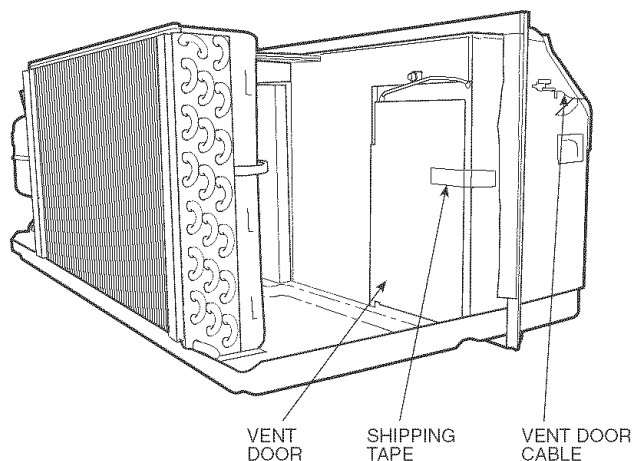

Fig. 9 — Location of Shipping Tape on Vent Door
2. Remove shipping tape from vent door. See Fig. 9.